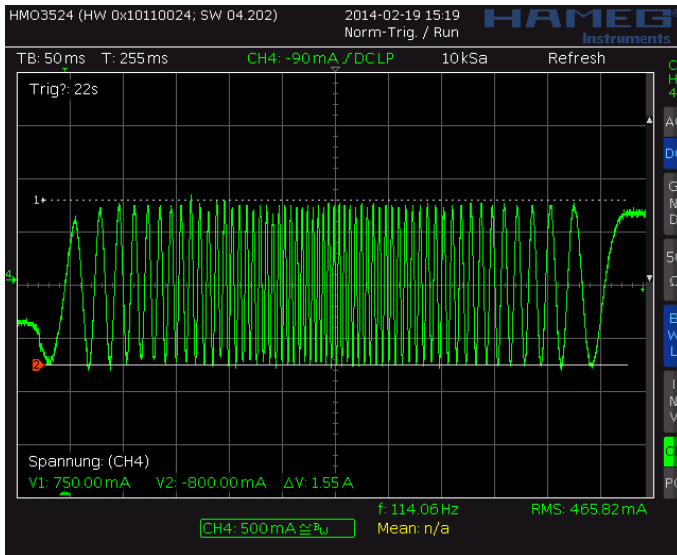
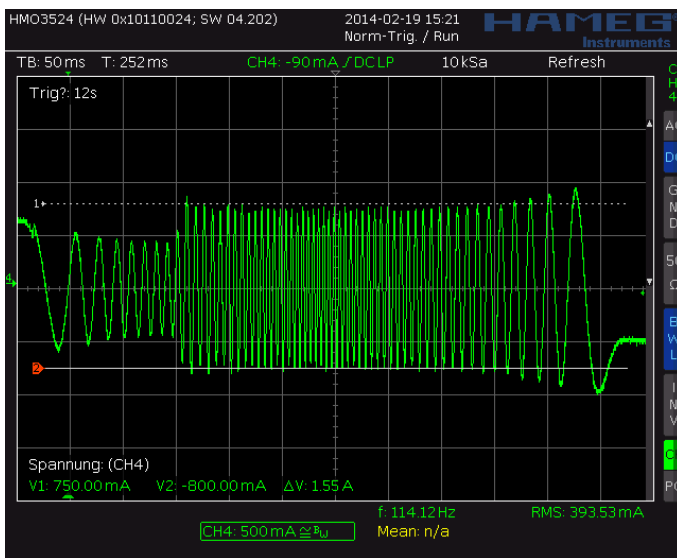
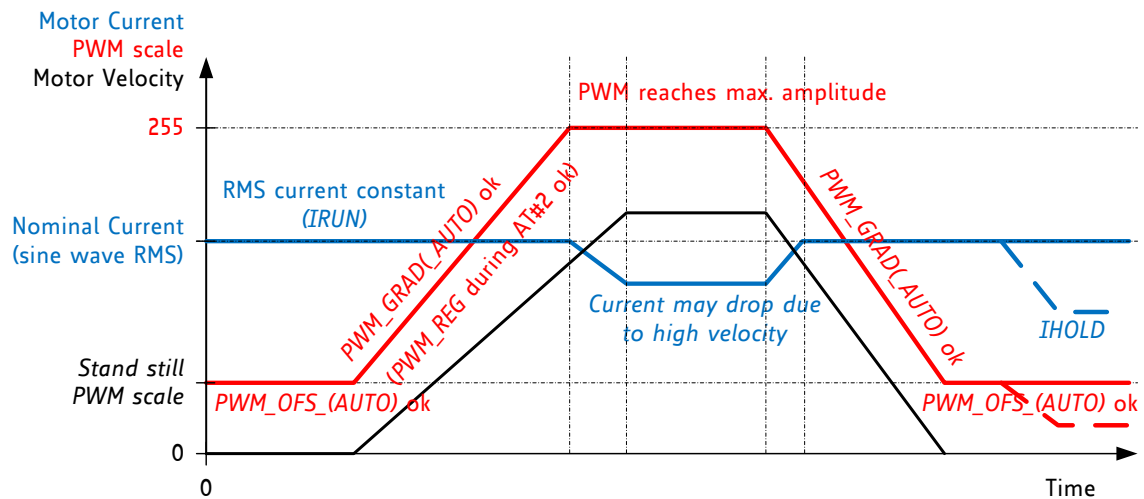

Figure 6.3 Scope shot: good setting for PWM_REG
Figure 6.4 Scope shot: too small setting for PWM_REG during AT#2
Figure 6.5 Successfully determined PWM_GRAD(AUTO) and PWM_OFS(AUTO)
In StealthChop voltage PWM mode, the autoscaling function ($pwm_autoscale = 1$, $pwm_autograd = 1$) regulates the motor current to the desired current setting. Automatic scaling is used as part of the automatic tuning process (AT), and for subsequent tracking of changes within the motor parameters. The driver measures the motor current during the chopper on time and uses a proportional regulator to regulate PWM_SCALE_AUTO in order match the motor current to the target current. PWM_REG is the proportionality coefficient for this regulator. Basically, the proportionality coefficient should be as small as possible to get a stable and soft regulation behavior, but it must be large enough to allow the driver to quickly react to changes caused by variation of the motor target current (e.g., change of $VREF$). During initial tuning step AT#2, PWM_REG also compensates for the change of motor velocity. Therefore, a high acceleration during AT#2 will require a higher setting of PWM_REG . With careful selection of homing velocity and acceleration, a minimum setting of the regulation gradient often is sufficient ($PWM_REG=1$). PWM_REG setting should be optimized for the fastest required acceleration and deceleration ramp (compare Figure 6.3 and Figure 6.4). The quality of the setting PWM_REG in phase AT#2 and the finished automatic tuning procedure (or non-automatic settings for PWM_OFS and PWM_GRAD) can be examined when monitoring motor current during an acceleration phase Figure 6.5.